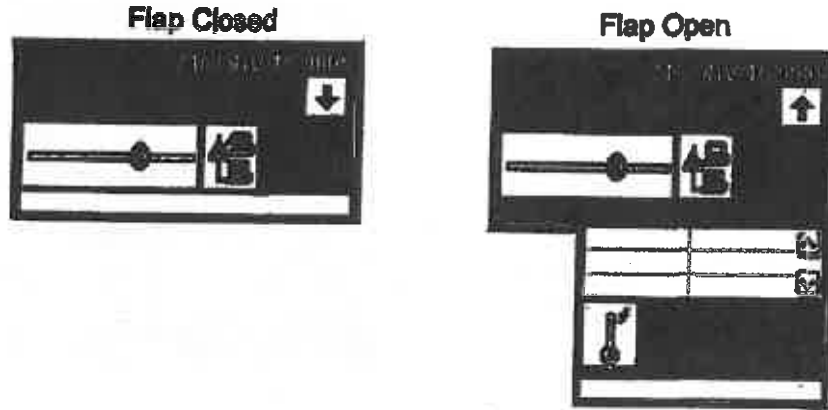

Figure 1-6: Larger Compressed Radio Resource
- **Larger Compressed Resource** – A radio resource that always shows some of the indicators and controls, but allows the dispatch console to hide some of the others (Figure 1-6).